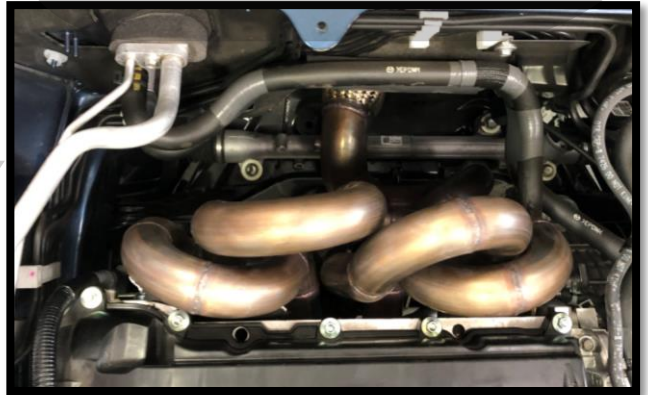

Figure 5b
- b) Install the upper portion of the CS header into the engine bay and place it on the mounting studs of the engine block. Shown positioned correctly in **Figure 5b**.